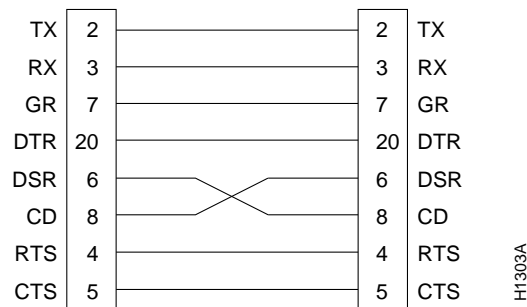
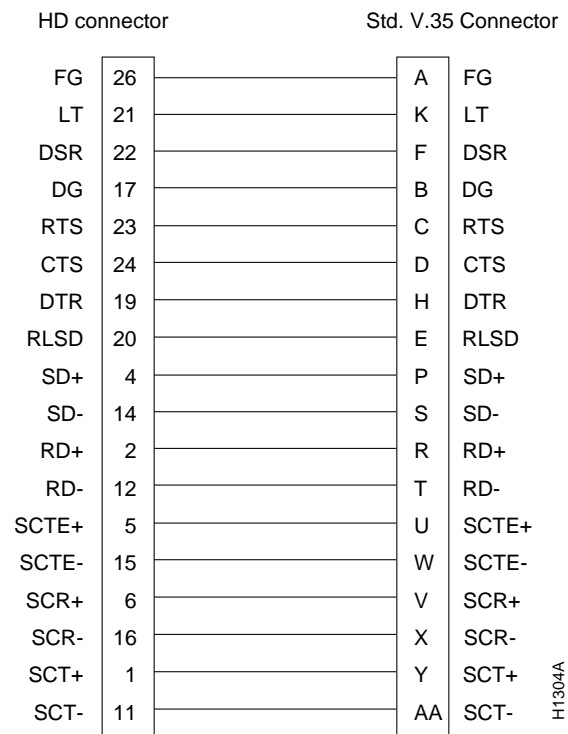

Figure A-1 RS-232 Cable Configuration for Dial on Demand
Figure A-2 HD V.35 Cable Configuration for Dial on Demand
To use the dial-on-demand feature (discussed in the configuration guide publication) with some synchronous modems, you might need special cable configurations. If your modem follows the V.25 bis specification and raises Data Set Ready (DSR), a cable modification is required to swap DSR with Data Carrier Detect (DCD or CD). If your modem ignores the V.25 bis specification and raises DCD, no cable modifications are required. Figure A-1 shows the configuration for the RS-232 cable, and Figure A-2 shows the configuration for the HD V.35 cable.
Receive Line Signal Detect (RLSD) is the HD V.35 equivalent of CD. For the high-density (HD) V.35 cables, swap pin E (DSR) with pin F (RLSD) at the standard V.35 end, or swap pin 20 (DSR) with pin 22 (RLSD) at the HD end. The results are shown in Figure A-2.